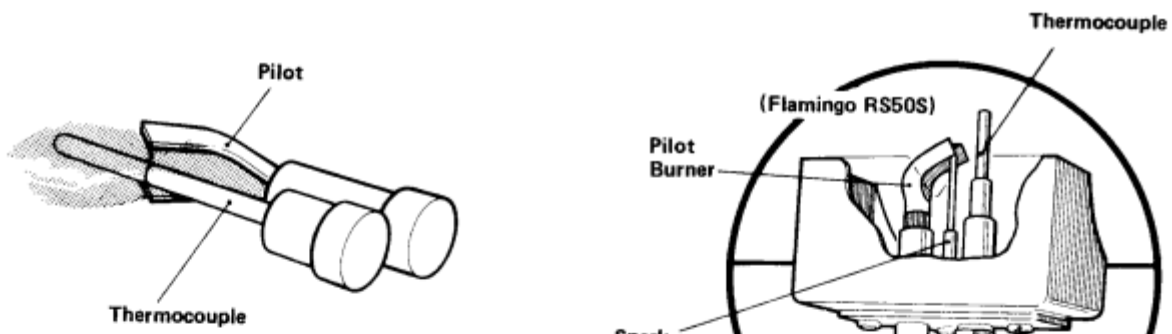
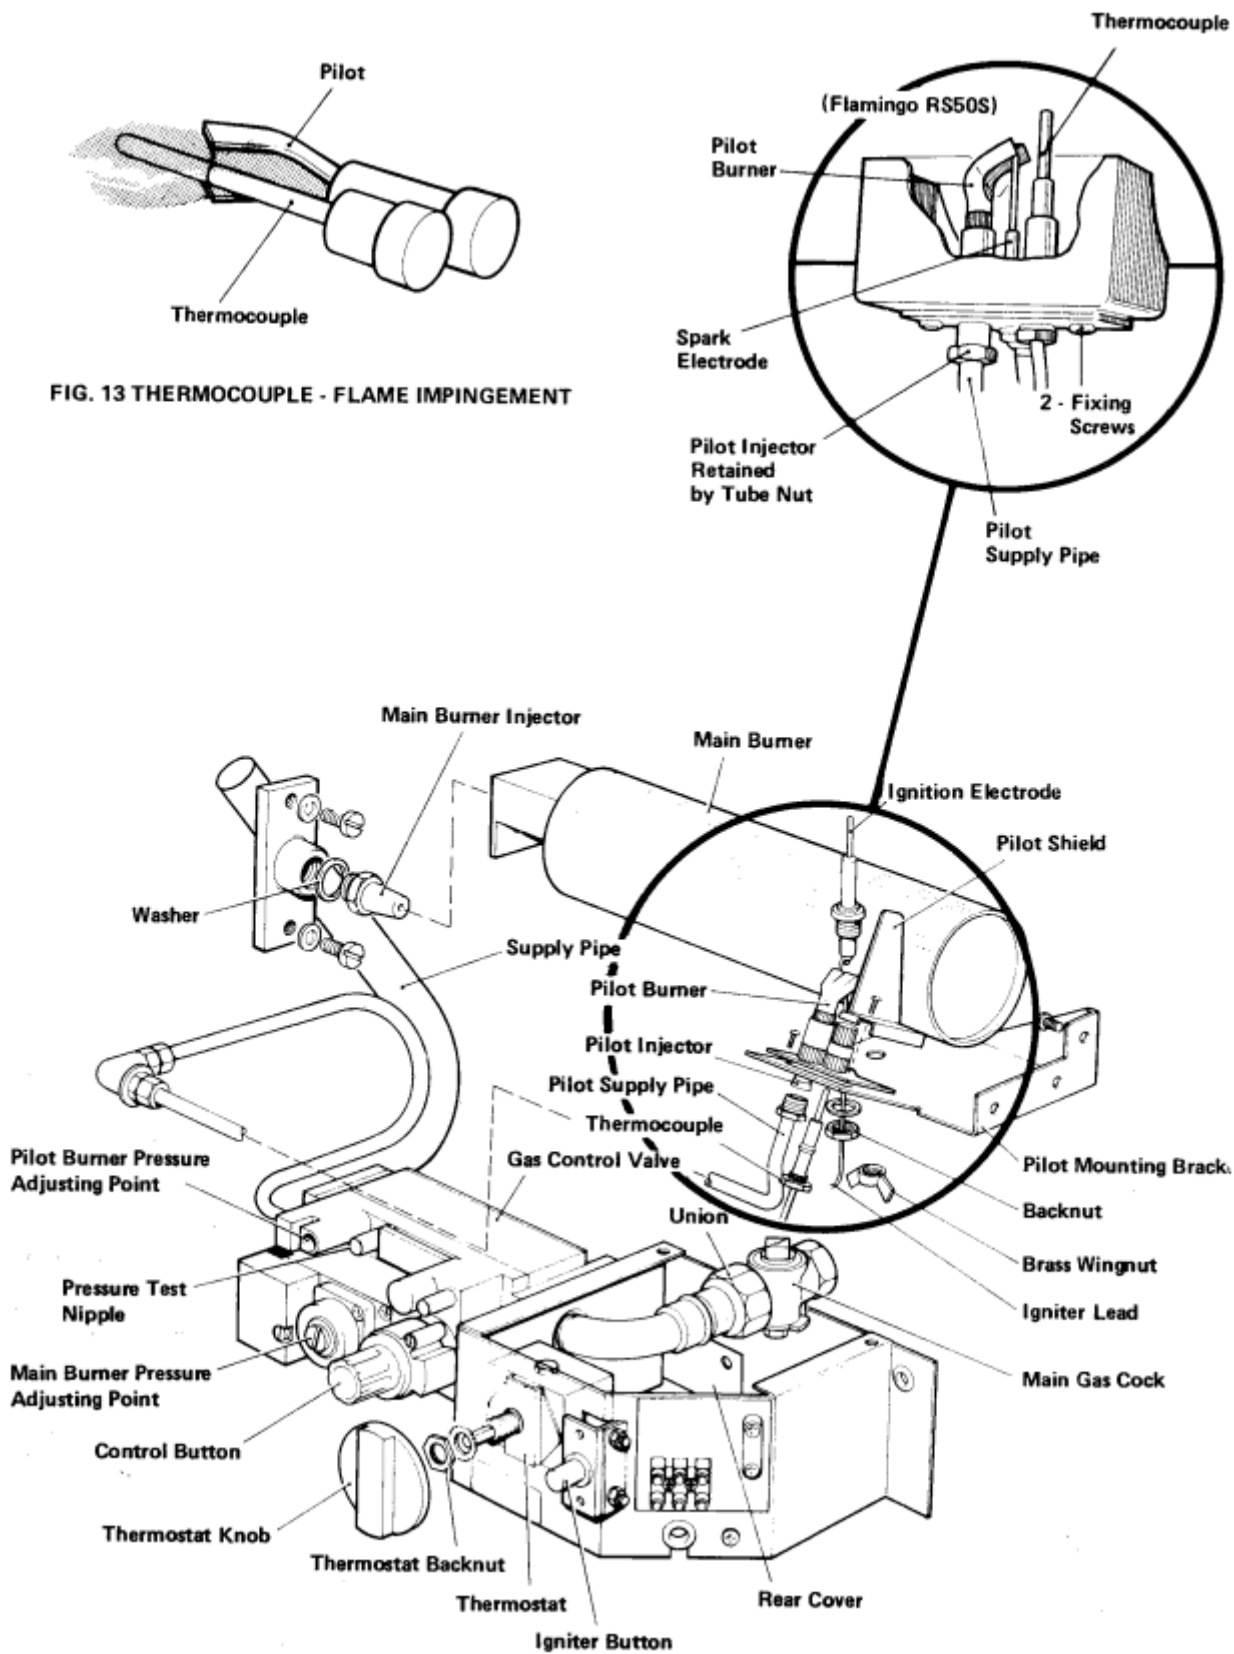

FIG. 13 THERMOCOUPLE - FLAME IMPINGEMENT
FIG. 14 EXPLODED VIEW OF FLAMINGO COMPONENTS
k. When correctly set, the pilot flame must be sufficient to heat the thermocouple so that the pilot safety device is 'held in' but must not cause the thermocouple to glow bright red. The correct adjustment is achieved when the length of the pilot flame completely envelops the tip of the thermocouple, but, the tip itself is still visible - see Figure 13. If the pilot needs adjustment rotate the exposed pilot restrictor screw on the gas valve (Fig. 14) clockwise to reduce or anti clockwise to increase the flame. When the pilot is set to the above instructions, the E.M.F. generated by the thermocouple should be of the order of 18 - 30mv open circuit, 10 - 15 closed circuit. Drop out should occur between 2 - 4mv closed circuit.
If burner pressure adjustment is necessary, remove the screwed cap from the control valve (Figure 14) and turn the screw beneath clockwise to increase pressure or anti-clockwise to decrease. Refit the screwed cap when the pressure is correct. Shut down the boiler, remove the pressure gauge and tighten the screw in the pressure test nipple. With the burner set to its correct pressure, the heat input given in Table 1 should also be obtained and this should be checked by meter reading over a period of at least five minutes once the boiler is hot.